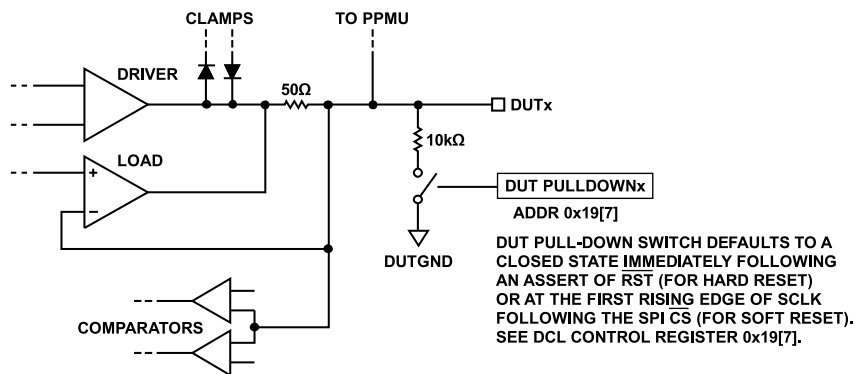

Figure 114. DUTx to  $V_{\text{DUTGND}}$  Soft Connect Detail
- ▶ Soft connect the DUT0 and DUT1 pins to  $V_{\text{DUTGND}}$  (see Figure 114)